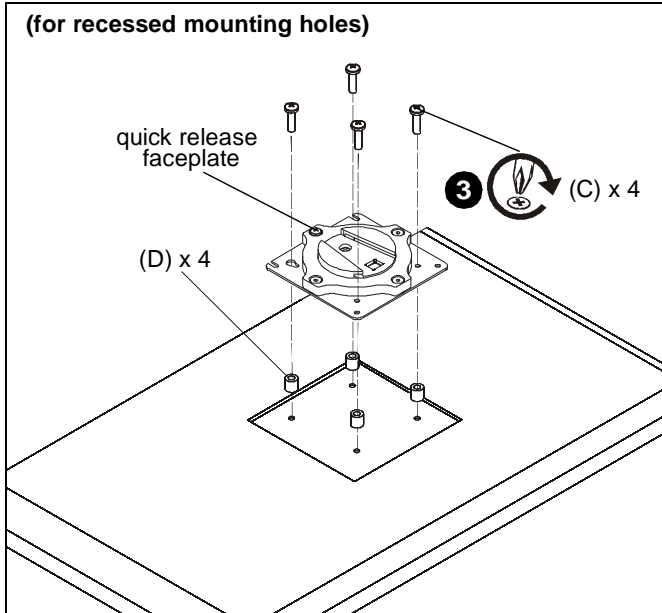

Figure 4
- Place four spacers (D) on top of mounting holes on back of display. (See Figure 4)
- Using Phillips screwdriver, carefully install four M4x25mm screws (C) through corresponding holes on faceplate, spacers (D) and into the mounting holes on the display. (See Figure 4)